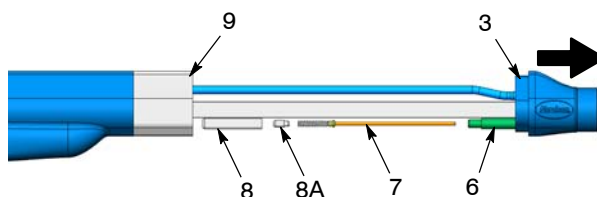

Figure 25 Removing the Resistor
8. See Figure 25. Pull the adapter (3) away from the body tube (9) far enough to access the sleeve (8) and resistor guide (6).
9. Remove the contact (8A), then slide the sleeve off the resistor guide and resistor (7). Pull the resistor out of the resistor guide.
1. See Figure 25. Inject 0.6 cc of dielectric grease into the resistor guide (6).